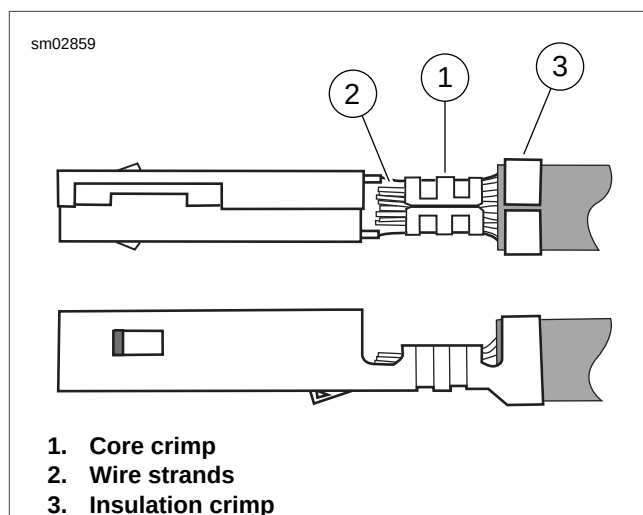

Figure A-54. Terminal Crimp
- a. See Figure A-54. The core tails should be creased into the wire strands at the core crimp (1).
- b. Strands (2) of wire should be visible beyond the core crimp but not forward into the terminal shell.
- c. The insulation tails should be folded into the insulation (3) without piercing or cutting the insulation.